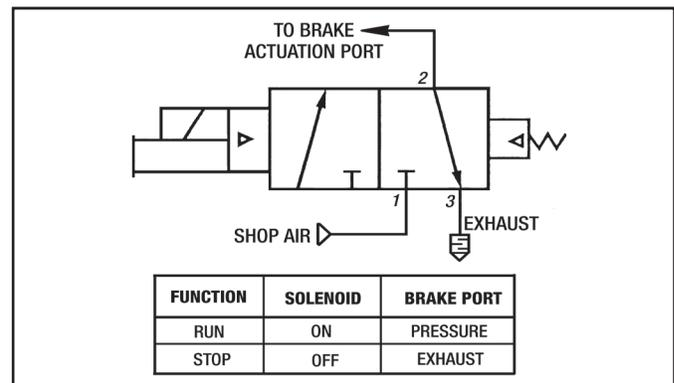

Figure 9 - Control Valve Schematic and Logic
5. Install appropriate external pneumatic valving (See Figure 9.)